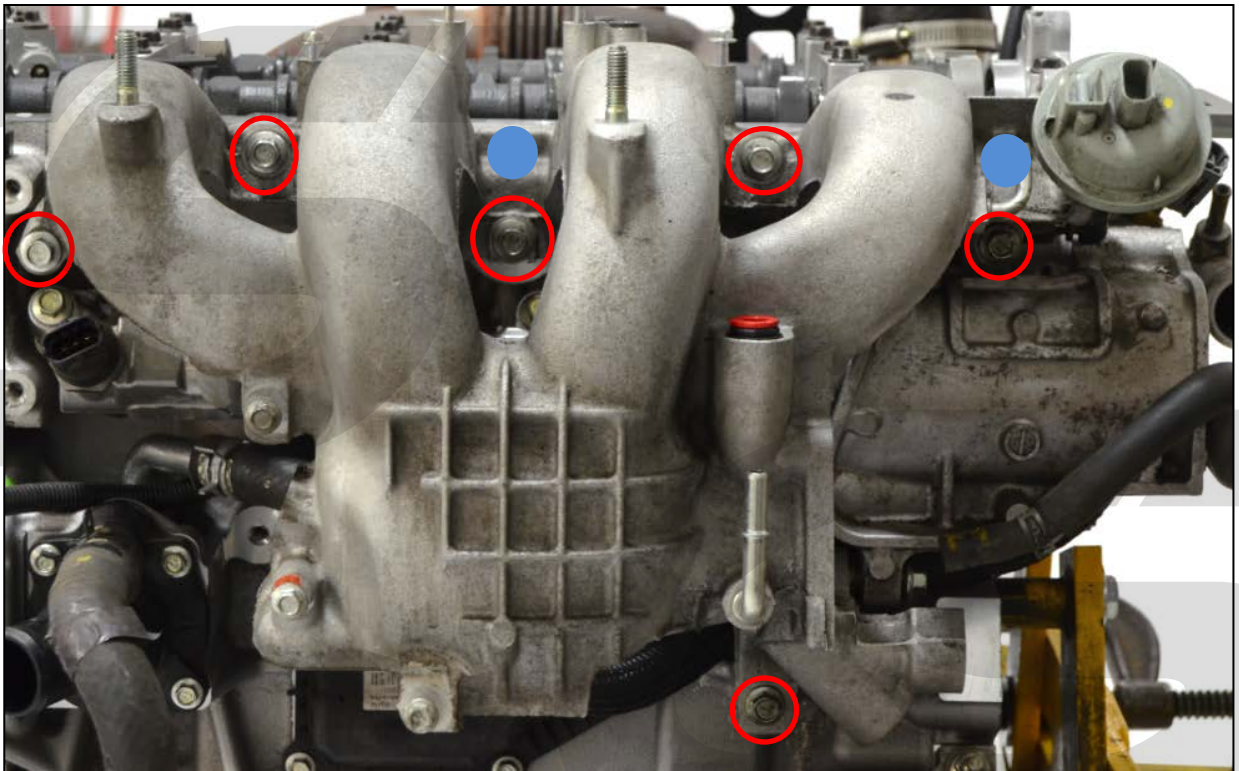

Figure 5b
- b) Remove the intake manifold with a 10mm socket wrench and 4" extension, shown with red circles in Figure 5b. Alignment pins are located at the blue dots.